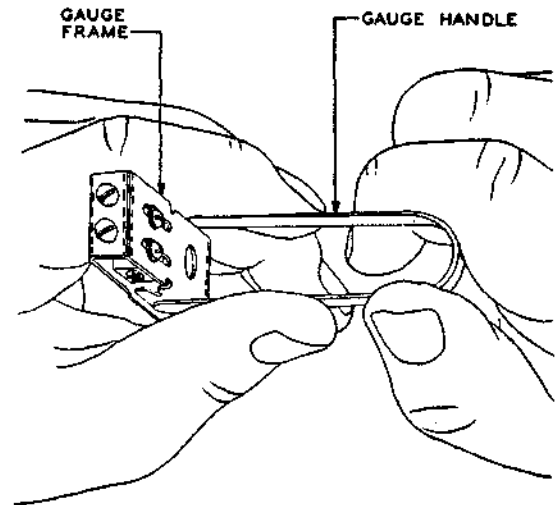

Fig. 9 - Method of Adjusting Clearance Between Reed and Gauge Handle
(1) Place the handle in the specified position. If necessary, adjust the clearance between the reed and the handle by applying pressure to the sides of the handle in the manner indicated in Fig. 9. In some cases, it may be necessary to adjust the gauge handle with the long-nose pliers.